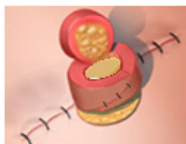

Figure 4
17. Place the cylinder so that it contacts the base of the donor site and has good contact with the pedicle (blood supply). Wrap the flap around the cylinder to provide complete contact between the cylinder and vascularized tissue flap, leaving no gap between them. Suture the flap into place using non-resorbing or slow resorbing suture, as shown in Figure 4.